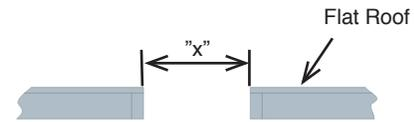
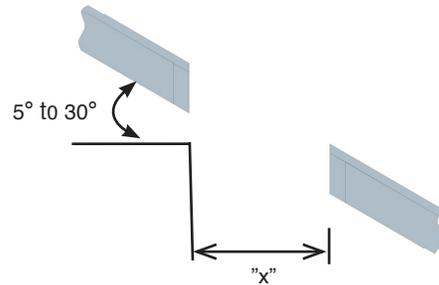

Figure 87a - Minimum Opening for flat roof
Figure 87b - Minimum Opening for sloped roof
1. Cut opening to dimensions specified in **Table 2**. See **Figure 87a** for flat roof and **Figure 87b** for a sloped roof.